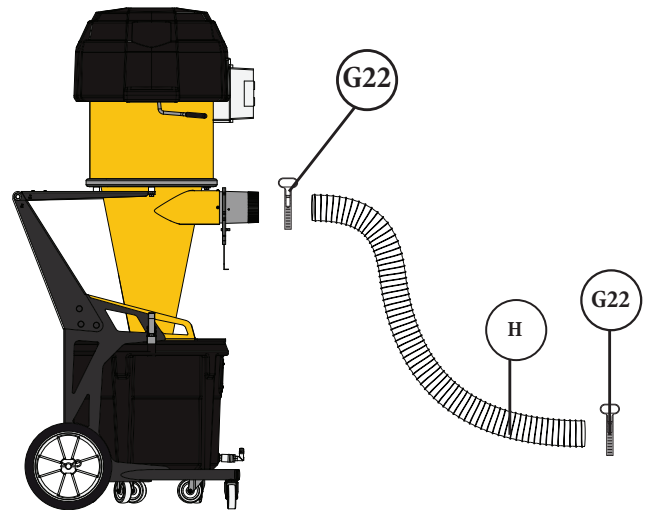

FIG. 32
Connect the Supercell to your tools or ductwork using the Vacuum Pressure-Rated Hose (H). Secure the hose in place using Hose Clamps (G22) at both ends [FIG. 32].